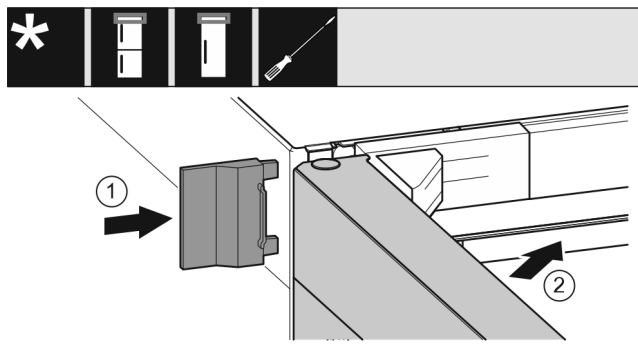

Fig. 20
- ▶ Slide on the outer cover. Fig. 20 (1)
- ▶ Close the upper door. Fig. 20 (2)